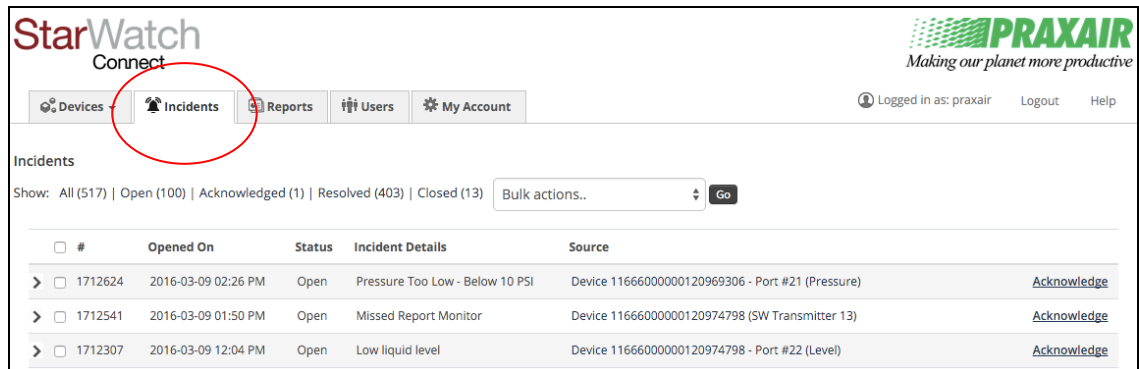

Figure 10: Incidents Screen Example
1. Select the **Incidents** tab, which displays a record log of all incidents (see Figure 10).
Status: Current status of the incident. Incidents can be viewed in groups according to their status – Open, Acknowledged, Resolved, and Closed using the options located below the **Status** title (see Figure 10).